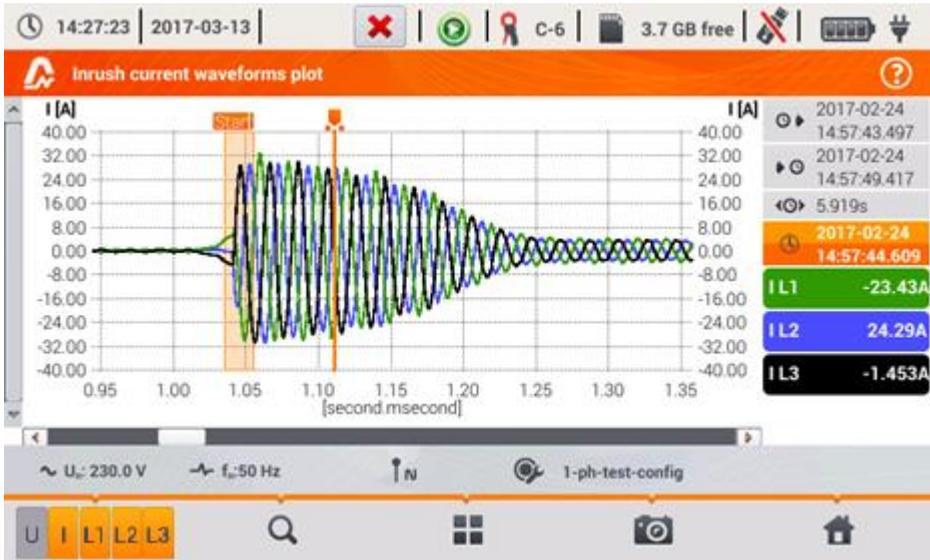

Fig. 42. Inrush current analysis – waveforms plots.
After the time elapses, the recording process ends and the analyzer automatically starts the analysis of measured inrush parameters, displaying the timeplot with current waveforms for the entire recording interval. An example of the screen displayed during the start-up of a 3-phase motor is shown in Fig. 42.
- plot of inrush waveforms (Fig. 42; option available in the view of a plot for $RMS_{1/2}$ and as a table).